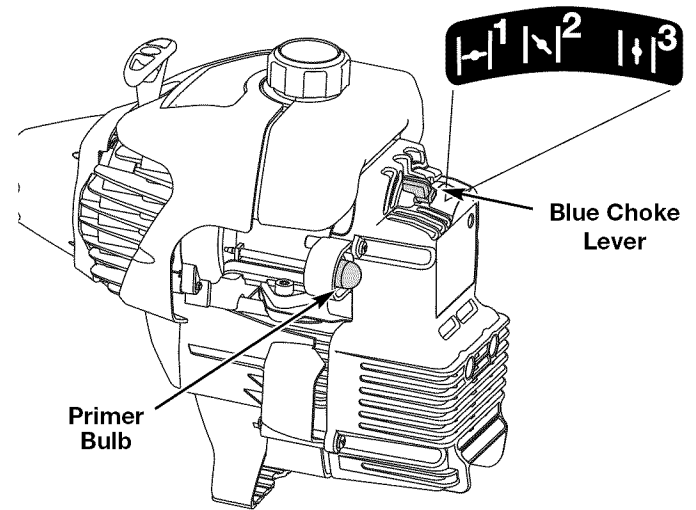

Fig. 10
2. Fully press and release the primer bulb 10 times, slowly. Some amount of fuel should be visible in the primer bulb and fuel lines (Fig. 10). If you can't see fuel in the bulb, press and release the bulb as many times as it takes before you can see fuel in it.
3. Place the blue choke lever in **Position 1** (Fig. 10).
5. Place the blue choke lever in **Position 2** (Fig. 10).
8. Once the engine is warmed up, place the blue choke lever in **Position 3** (Fig. 10). The unit is ready for use.
**IF...** the engine hesitates, return the blue choke lever to Position 2 (Fig. 10) and continue warm-up.